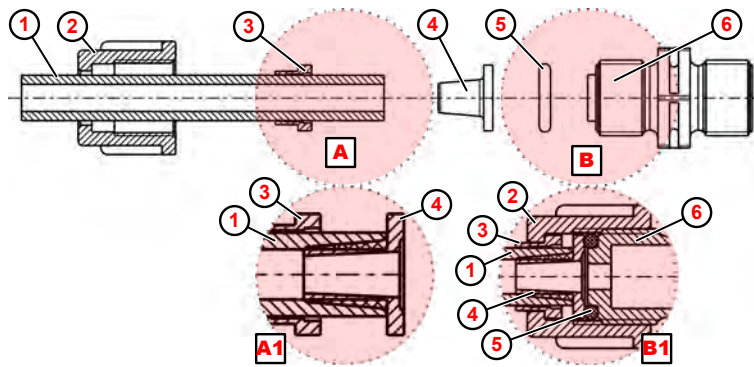

Fig. 8: Pipe-to-hose connection with tapered part
1. ➤ Cut off the hose with a straight cut ( Fig. 8 , ① ).
2. ➤ Slide the union nut ② over the hose ① .
3. ➤ Slide the clamp ③ over the hose ① .
4. ➤ Slide the hose ① onto the tapered part ④ up to the stop collar (for details, Ⓐ1 ).
5. ➤ Slide the tensioning piece ③ towards the tapered part ④ until you feel resistance.
6. ➤ Place the o-ring ⑤ in the groove of the suction or pressure valve ⑥ .
7. ➤ Tighten the union nut ② (for details, see Ⓑ1 ).